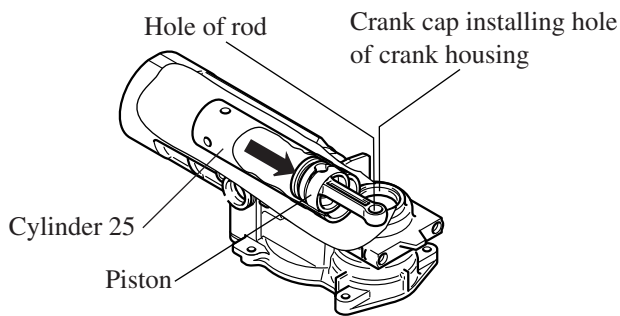

Fig. 30
- (1) Further push the piston, until the hole of rod can be seen through the crank cap installing hole of crank housing. See Fig. 30.